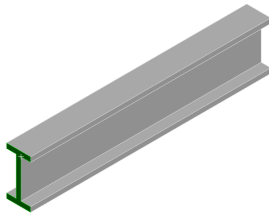

Figure 2-48 Face selected
- Choose the **Face** tool from the **Select** toolbar to select the face to apply fixed support. Next, select the face of the model; the face turns green, as shown in Figure 2-48.